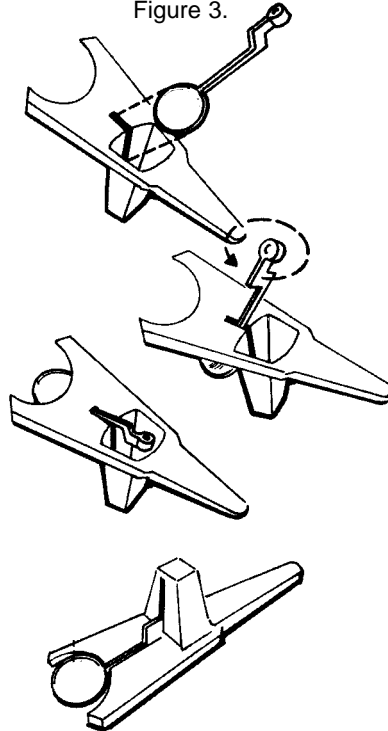

Figure 4.
2. Cut the strap and lift off the upper half of the poly-container. Remove the base and specific gravity stand. Hold the base upside down. Insert the round, flat end of the stand through the slot in the base. Rotate stand into position as shown in Figure 4. It will turn easily if you rotate it as soon as the round end clears the opening. When the base and the specific gravity stand are upright, the OHAUS on the stand must be facing down.